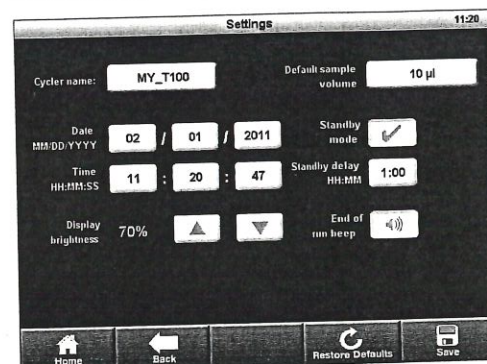

Fig. 2. Settings screen.
1. In the Home screen, touch **Tools** and then **Settings** to display the instrument settings menu (Figure 2).